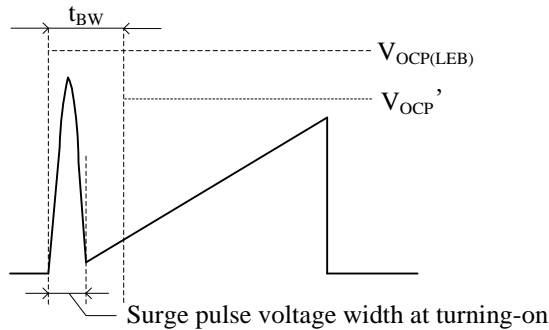
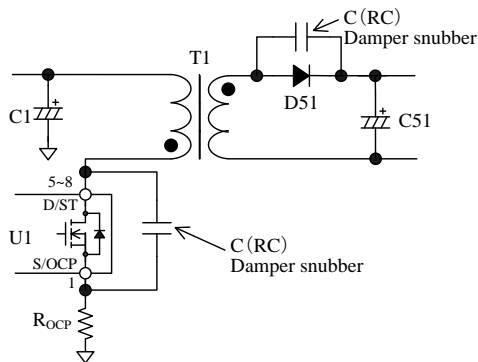

Figure 10-12. S/OCP Pin Voltage
Figure 10-13. Damper Snubber
During the leading edge blanking time, the OCP threshold voltage becomes $V_{OCP(LEB)} = 1.69 \text{ V}$ which is higher than the normal OCP threshold voltage as shown in Figure 10-12. Changing to this threshold voltage prevents the IC from responding to the surge voltage in
When the power MOSFET turns on, the surge voltage width of the S/OCP pin should be less than t_{BW} , as shown in Figure 10-12. In order to prevent surge voltage, pay extra attention to R_{OCP} trace layout (see Section 11.2). In addition, if a C (RC) damper snubber of Figure 10-13 is used, reduce the capacitor value of damper snubber.